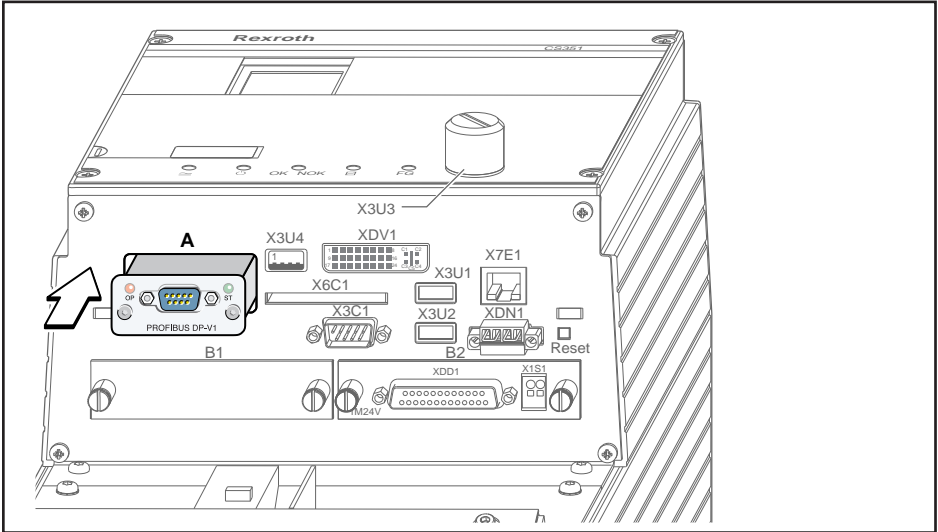

Fig. 2: Example: Slot A on the CS351 Compact System
2. Insert the IMpdp interface module into the appropriate slot (A) on the system component until it catches (example in Fig. 2).